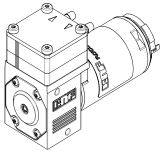

Fig. 12: Optimal mounting orientation / horizontal
- Mounting orientation → Generally speaking, the pump can be mounted in any orientation. The venting and accuracy of the pump is optimal if installed as shown in the illustration (Fig. 12).